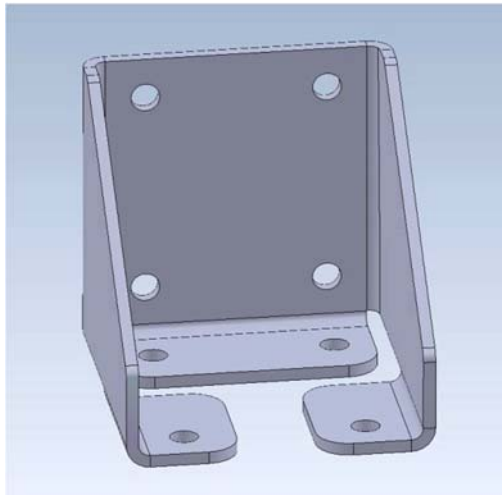

Figure Q5 [b].
- [b] In Group Technology (GT) parts are identified and grouped into families by classification or coding and decision-tree is one of the methods. Construct a decision-tree classification for a sheet metal bracket as shown in Figure Q5 [b].**